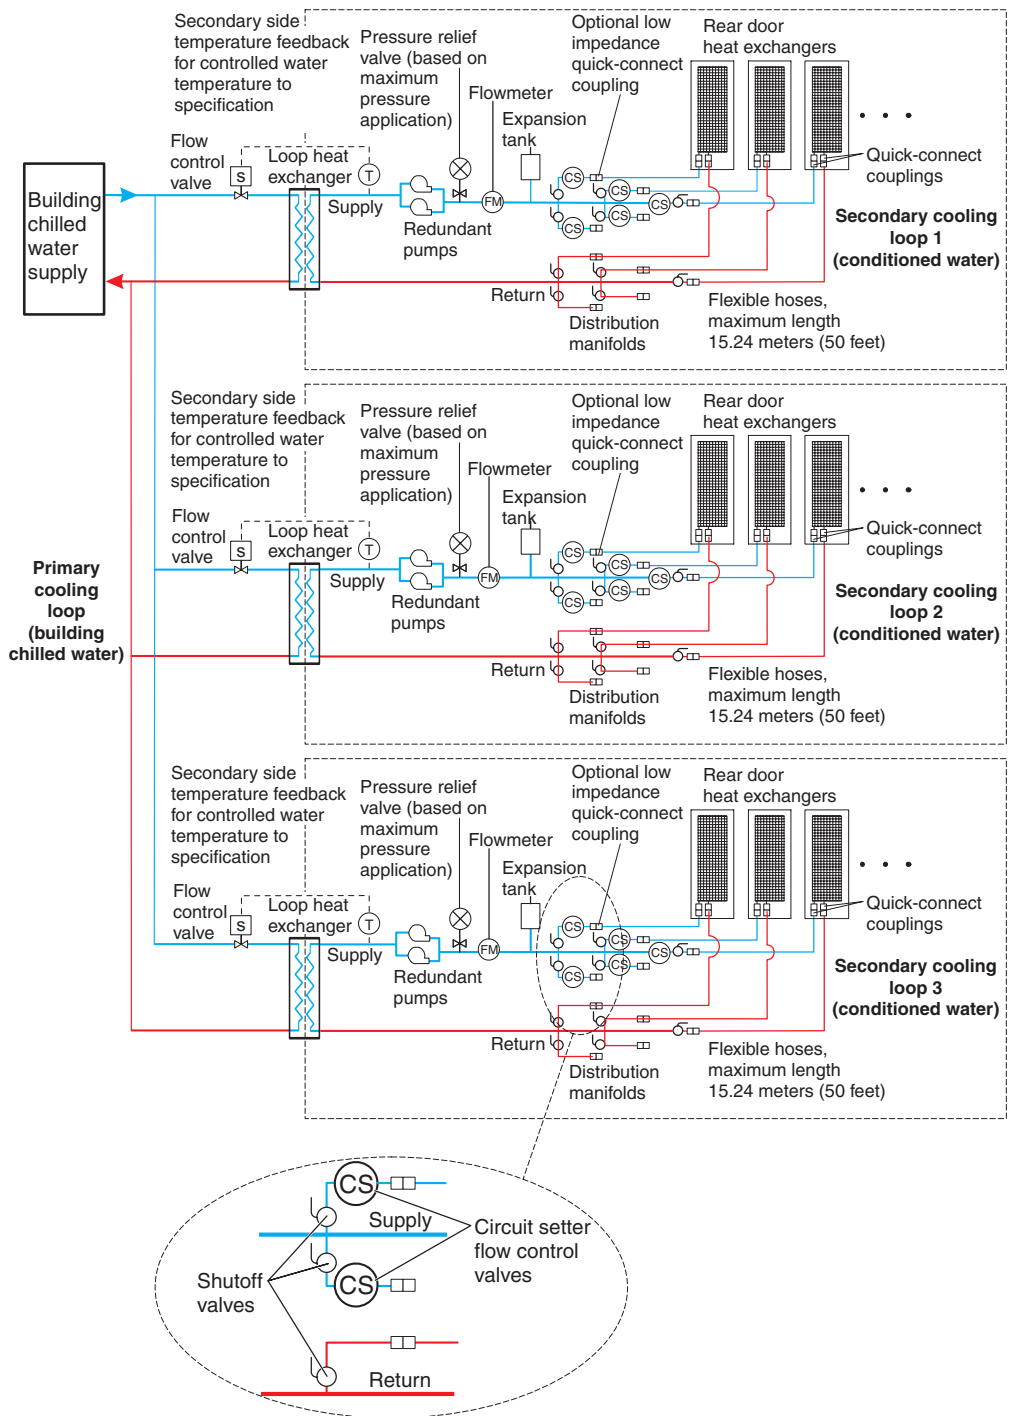

Figure 5. Primary and secondary cooling loops
Figure 5 on page 18 through Figure 8 on page 21 show typical cooling solutions with the most flexibility possible. Read the following guidelines before you design the installation:
it provides the flow rate that you want for each heat exchanger and provides a way to verify the flow rate. Figure 5 on page 18 through Figure 8 on page 21 illustrate the use of circuit setters to adjust the flow rate to each heat exchanger. Other methods, such as inline or external flowmeters, can provide a more accurate method for setting the flow rate through the individual shutoff valves.
- Design the flow loop to minimize the total pressure drop within the flow loop. The Optional Low Impedance Quick Connect feature (shown in Figure 5 on page 18 through Figure 8 on page 21) cannot be the Parker quick-connect couplings that are used on the heat exchanger because of the excessive pressure drop associated with flowing through four quick-connect pairs in series. These must be very low, near 0, flow impedance quick connects. Alternatively, these quick connects can be eliminated and replaced with a hose barb connection.
Figure 5 shows a typical cooling solution and identifies the components of the primary cooling loop and the secondary cooling loop.